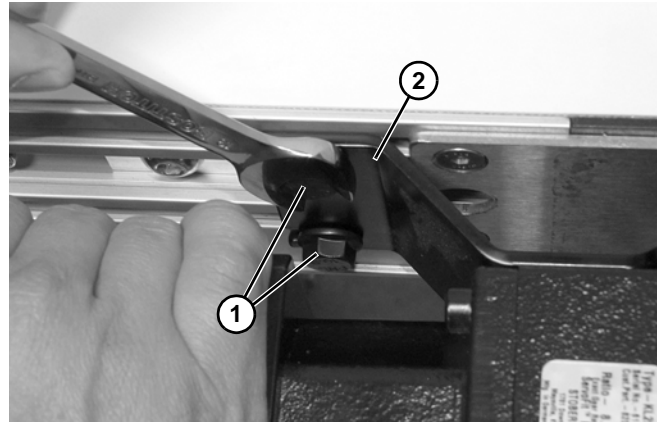

Figure 62
6. Install new servo assembly. Slide tee bars and fasteners (**Figure 62, item 1**) into slots in mounting plate (**Figure 62, item 2**) and tighten.